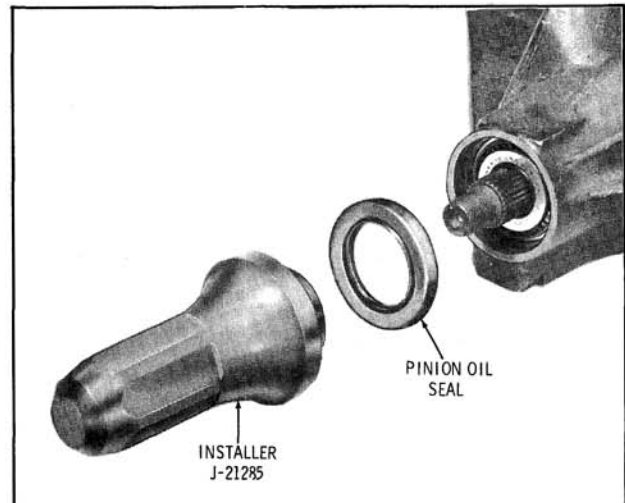

Fig. 10-3 Installing Pinion Oil Seal
9. Coat outside diameter of new seal sparingly with sealer, Part No. 1050026 and install seal as shown in Figs. 10-3 or 10-4 to properly locate seal in carrier.